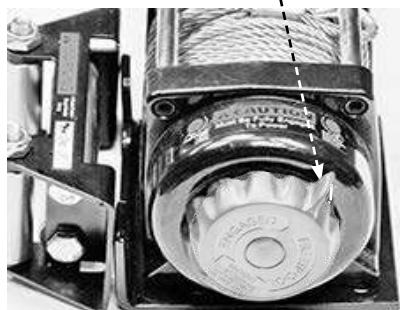

Figure 10
Turn the clutch knob to, Disengaged "Free" position as shown in Figure 10. Pull several feet of wire rope off the drum. Return the clutch knob back to the, "Engaged" position. Activate the
Turn the clutch knob to the, Disengaged "Free" position as shown in Figure 10. If there is a load on the wire rope, the clutch knob may not pull out easily. DO NOT FORCE THE CLUTCH KNOB. Release tension on the clutch by joggling out some of the wire rope.
Release the clutch and pull out the wire rope and secure to anchor or load. Check that there are at least five (5) turns of wire rope left on the drum. Re-engage the drum by returning the clutch knob to the, "Engaged" position. See Figure 10.